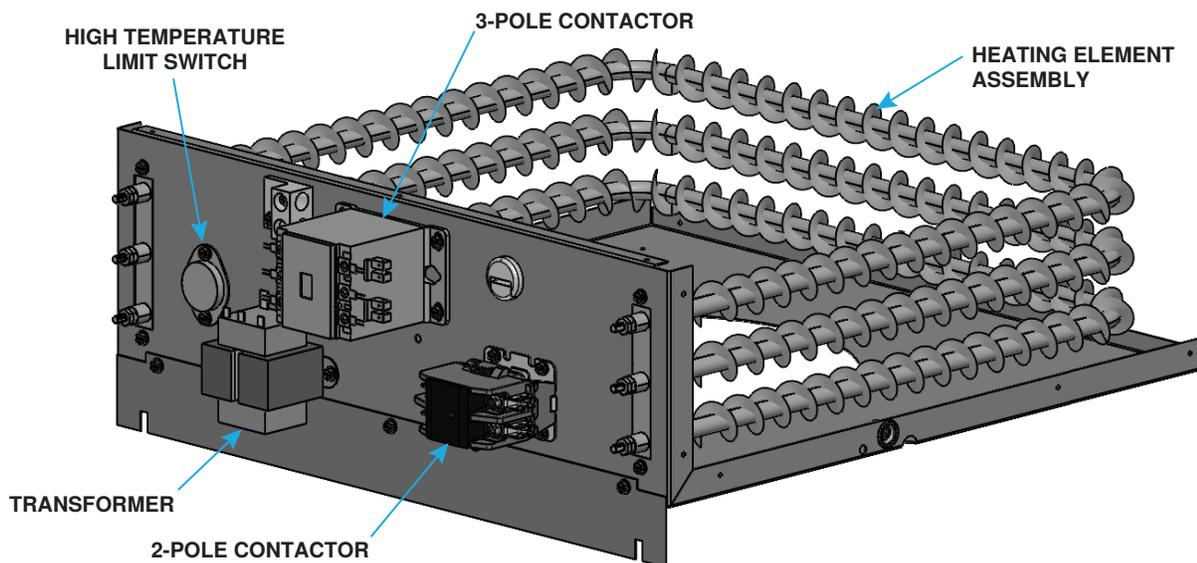
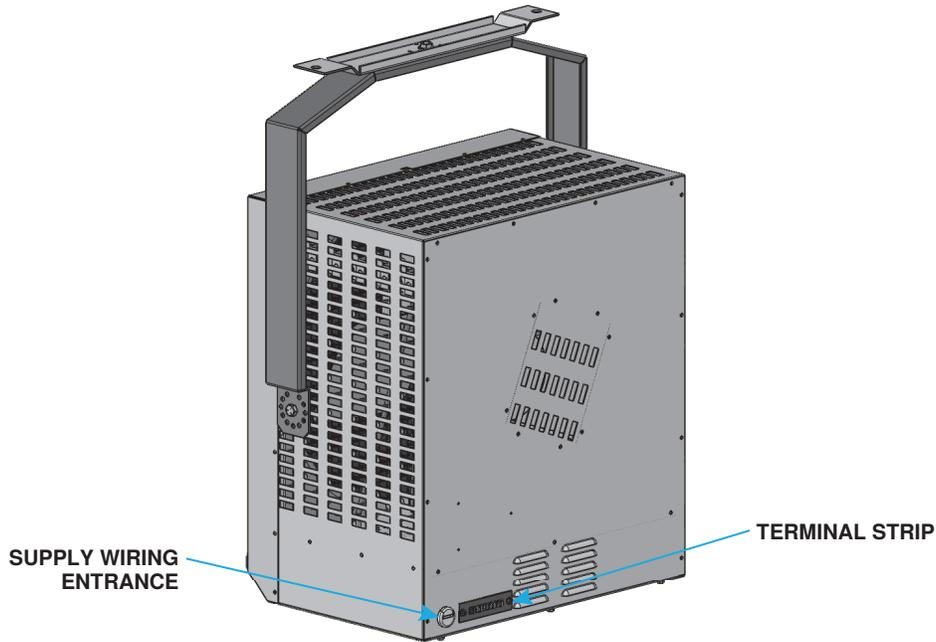
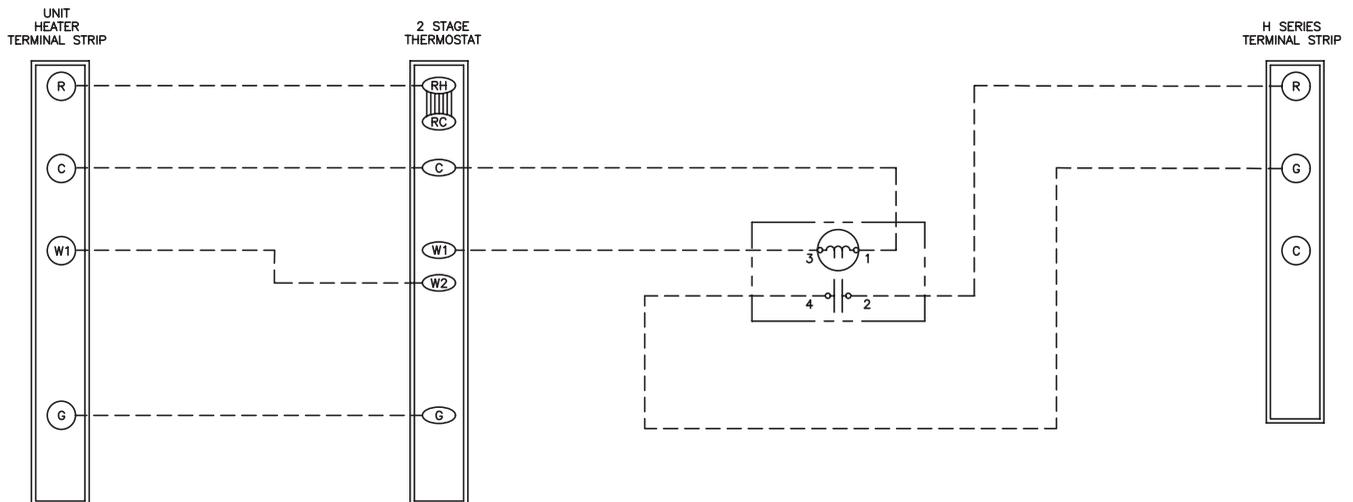

Figure 4. Typical Electrical Compartment
Figure 5. Supply Wiring Entrance and Control Connection Terminal Strip
Figure 6. Heater and Destratification Fan Wiring Diagram
- (1) Loosen terminal screws T1, T2, and T3 on 3-pole contactor (see Figure 4) terminals.
3. Route supply wiring through entrance shown in Figure 5 and connect to 3-pole contactor shown in Figure 4.
The terminal strip for 24V control connections is located on the outside of the cabinet at the back of the unit, as shown in Figure 5. The strip has five terminals: C, R, G, W1, and W2. The thermostat connections are the C (optional), R, G, and W1. If the installation features a heater and a model H destratification fan controlled by a single two-stage thermostat, ensure that the wiring is in accordance with the wiring diagram shown in Figure 6.
All units are equipped with a normally-closed temperature-activated, automatic-reset high temperature limit switch (see Figure 4). The switch is factory-set and is non-adjustable. If the setpoint is reached, the switch interrupts the electric supply to the heating elements. This safety device provides protection in the case of fan motor failure or lack of airflow due to a restriction at the inlet or outlet.
Inspect heating element assembly (see Figure 4) for signs of damage or excessive wear. If necessary, replace the assembly as follows: